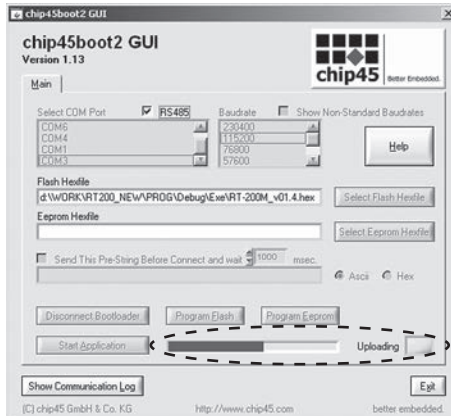

Figure 30.
13. Monitor the loading process for any “freezing” — the status should show “Uploading” along with a yellow indicator (see Fig. 30);